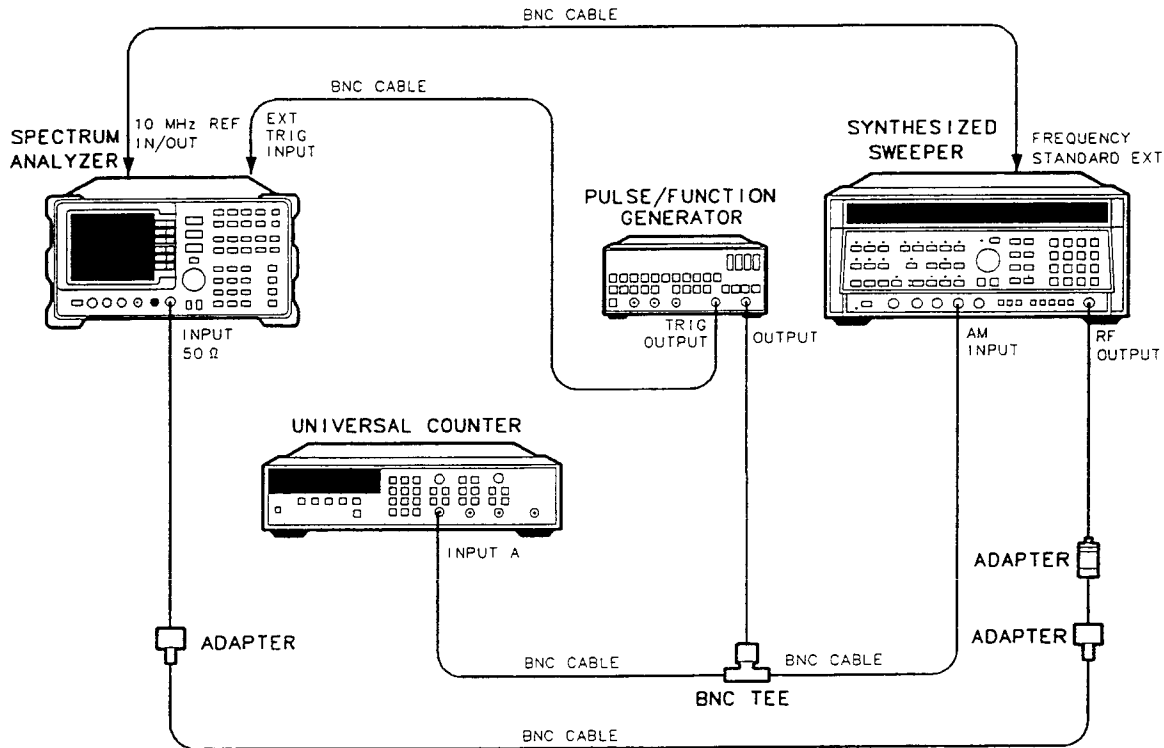

Figure 3-25. Sweep Time Accuracy Test Setup
- Connect the equipment as shown in Figure 3-25, with the BNC cable from the HP 8116A TRIG OUTPUT connected to the spectrum analyzer EXT TRIG INPUT.